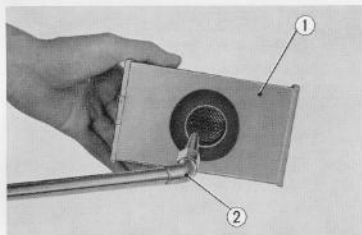

Fig. 5.15 Cleaning air cleaner element
- c. Tap the cleaner element lightly to loosen the dust and then blow dry compressed air from the inside or use a brush to remove the dust. (Fig. 5.15)